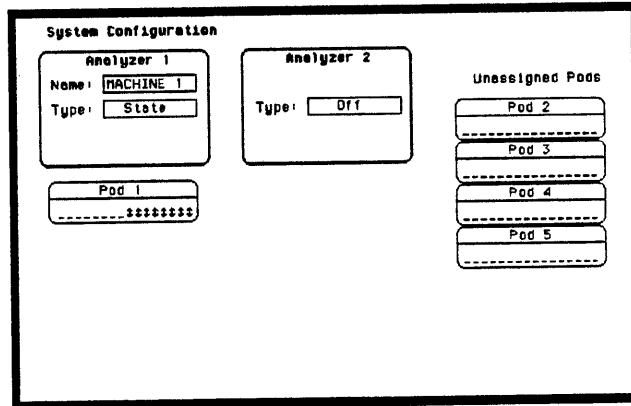

Figure 3-4. System Configuration for Data Test 1
- Assign the pod under test to **Analyzer 1** in **System Configuration** as in previous test figure 3-4.